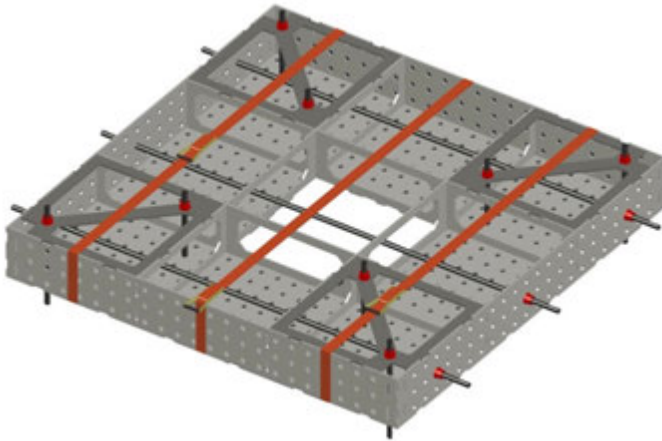

Figure 5-5
6. Insert 8 1/2" threaded rods through the holes in the leg plates and through the corresponding hole in the table top (see Figure 5-5). Using washers and nuts, lightly tighten each end of the threaded rods to snug the leg plates to the assembly.
7. Wrap and tighten three ratchet straps around the assembly as shown in Figure 5-5. The entire assembly should be snug and tightened together.